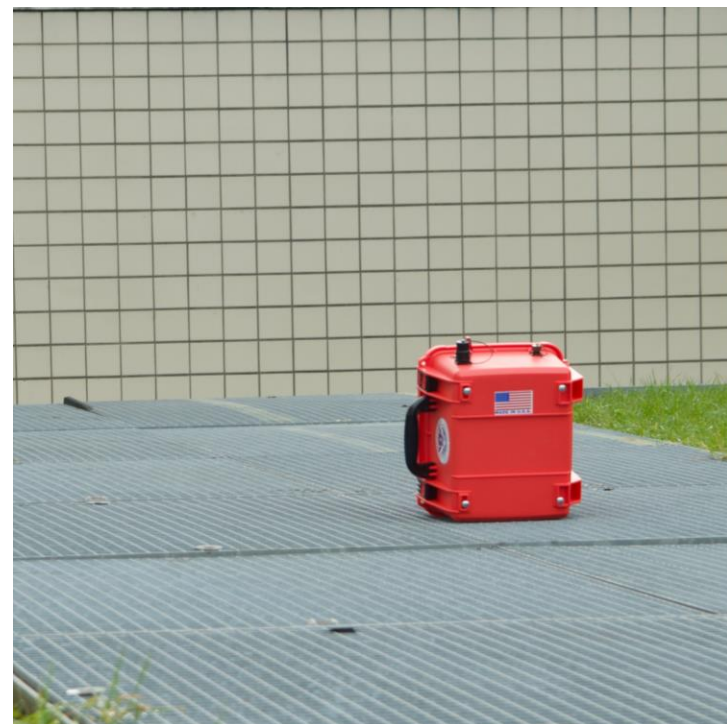

FIGURE 3-1 Rebar reinforced cinder block.
- *Figure 3-1* shows a common cinder block wall.
- Cinder block is hollow in most cases. However rebar shown in figure 3-1 is used to reinforce cinder block walls.